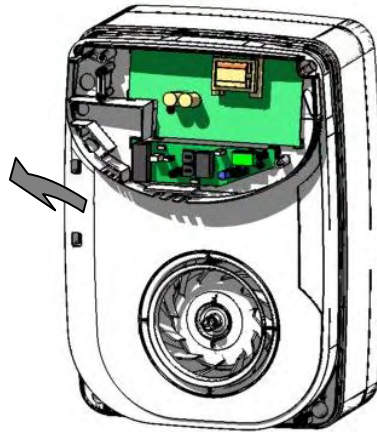
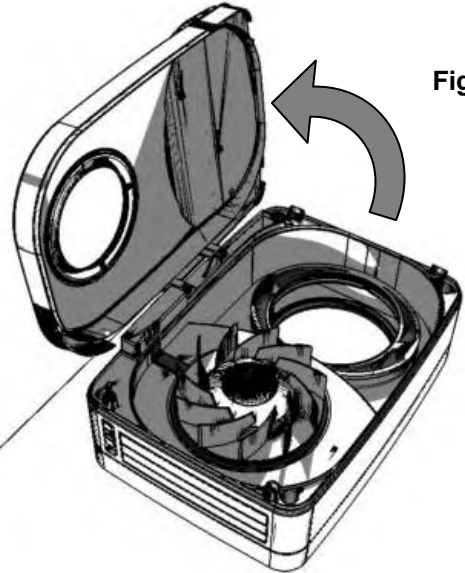

Fig.5
Fig.6
5) Lift where indicated to engage hinges Fig 5 and open Door Fig 6.